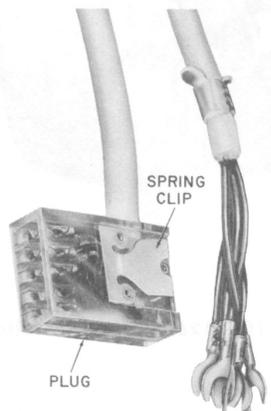

Fig. 7—D5AL Mounting Cord
**3.07** Insert the plug end of the D5AL or D5AN mounting cord (Fig. 7) into the jack located on the underside of the base assembly. **Make sure that the spring clip of the plug snaps into place to secure the plug.** Lay the cord in the cord channel and slide the cord retainer over the cord.